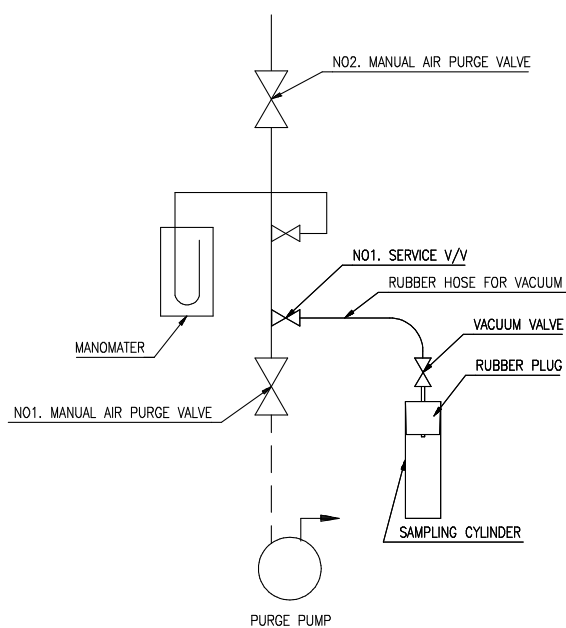
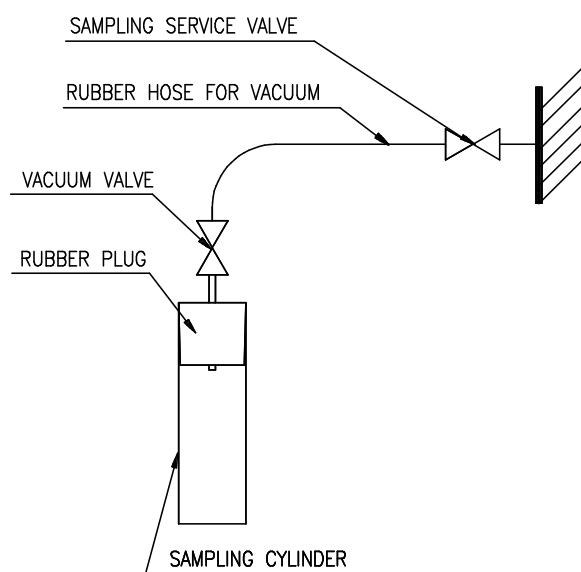

Fig. 7-1. Air Purging from Sampling Cylinder
Fig. 7-2. Method of Absorbent Sampling
- (1) Prepare equipment as per Fig. 7-1.
- (2) Operate purge pump
- (3) Open up No.1. manual air-purge valve
- (4) Open up No.1. Service valve.
- (5) Open up vacuum valve on sampling cylinder.
- (6) Once final pressure becomes about 5mmHg as indicated on mercury manometer, close up Vacuum valve.
- (7) Close up No.1 service valve and No.1. Purge valve.
- (8) Remove vacuum rubber hose from No.1. Service valve, and connect it to the sampling service valve through which the sampling solution is extracted. (Fig. 7-2.)
- (9) Open up the sampling service valve.
- (10) Open up vacuum valve on sampling cylinder.
- (11) When sampling cylinder becomes full of absorbent, close up the sampling service valve.
- (12) Remove vacuum rubber hose from the service valve.
- (13) Measure concentration of absorbent after removing the rubber plug from the sampling cylinder.
- (14) Upon completion of measurement, pour absorbent into another container, and wash sampling cylinder with water.
- (15) When sampling solution from another part of Absorption Machine, repeat steps (2) to (12).
- (16) Upon completion of above work, replace caps on No.1 service valve and the sampling service valve after checking the packing.
- (17) Stop purge pump.